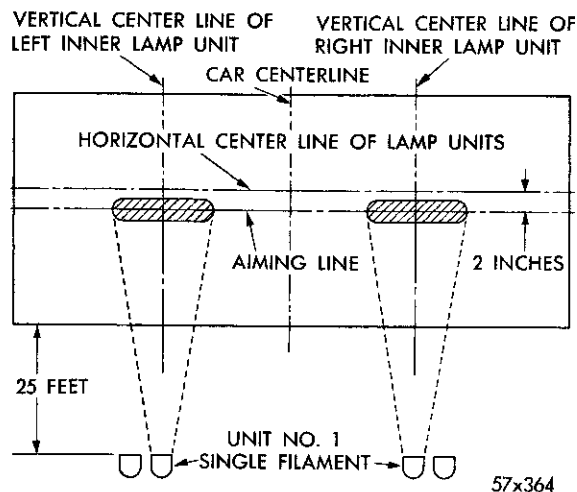

Fig. 31—Unit No. 1 Upper Beam Unit
1. The Sealed Beam with the numeral "1" molded into the top of the lens is a single filament—upper beam unit (Fig. 31).
appear to be similar, but may have "reverse action" which would cause a false indication. To use spare tank unit, disconnect wire at "GA" terminal of panel unit. Connect spare tank unit to "GA" terminal and ground case of spare tank unit with jumper wire. Move float arm of spare tank unit up and down. If panel unit registers correctly, tank unit in car is faulty and should be replaced. Remove tank unit, as shown in Figure 31. If panel unit does not register when float arm of spare tank unit is moved up and down, panel unit is faulty and should be replaced.